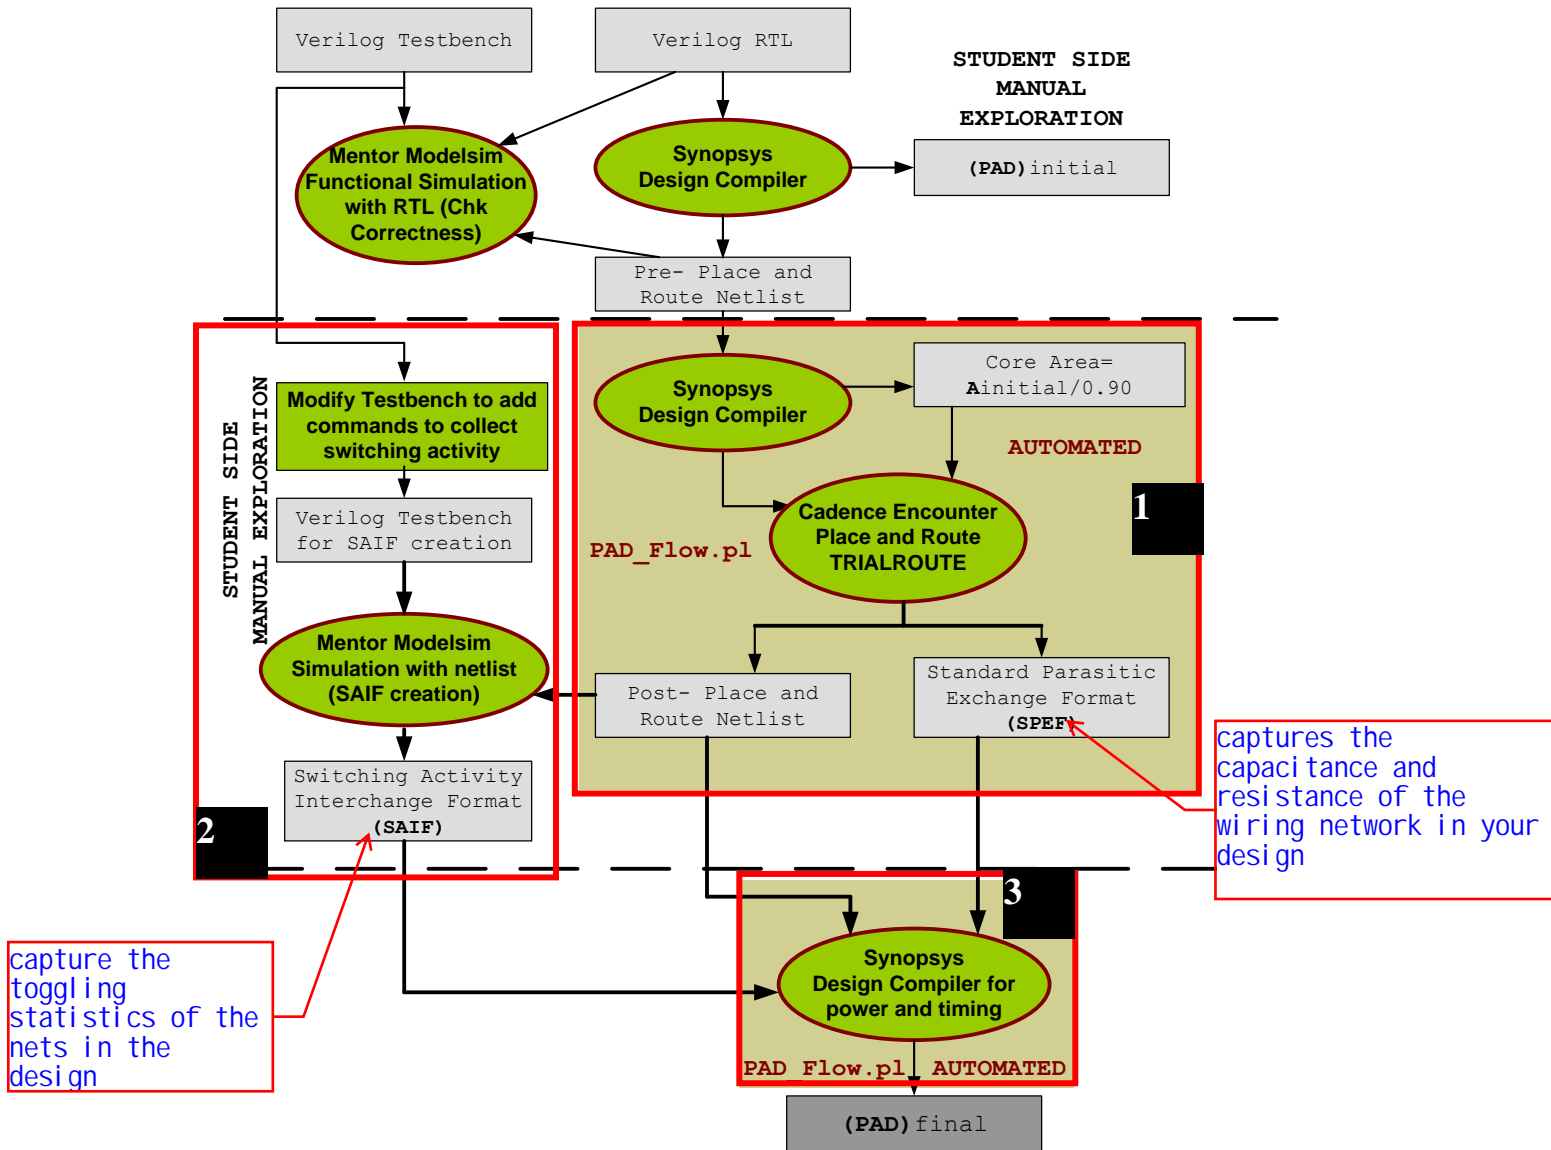

Figure 2: Methodology for analysis of designs
From Figure 2 we see that, starting with the synthesized netlist, there are three major steps that need to be followed to get a final Power (P), Area (A) and Delay (D) value for the design. These three steps are verbalized here for completion and will be performed in the next three subsections (DO NOT RUN THEM AT PRESENT):